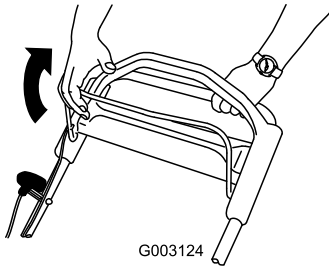

Figure 20
2. Pull the blade-control bar to the handle (Figure 20).